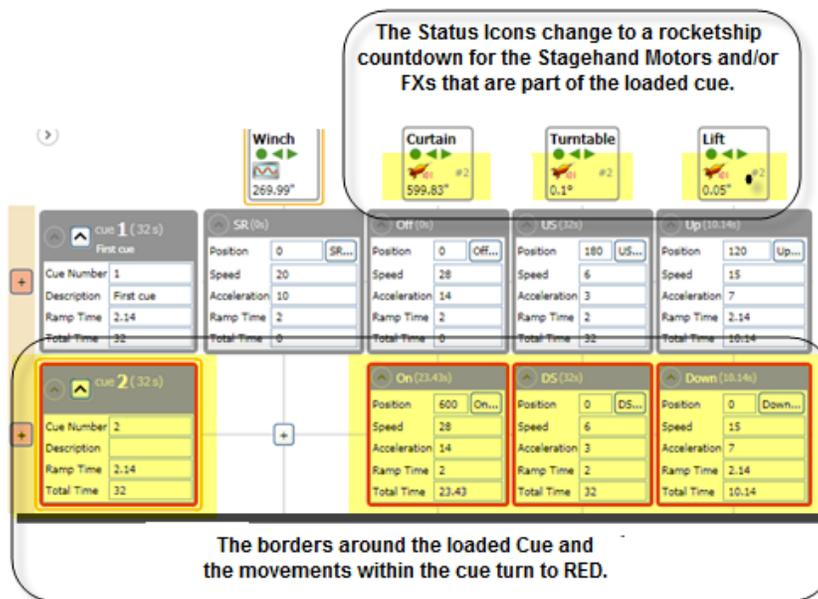

Figure 324
1. In the **Cue Grid**, the borders around the ready cue and ready movements change to red and the Stagehand column headers display a rocket ship countdown icon (Figure 324). *For a complete list of status icons and their meanings, see the "Motor Status" section on page 72 and the "FX Status" section on page 113.*